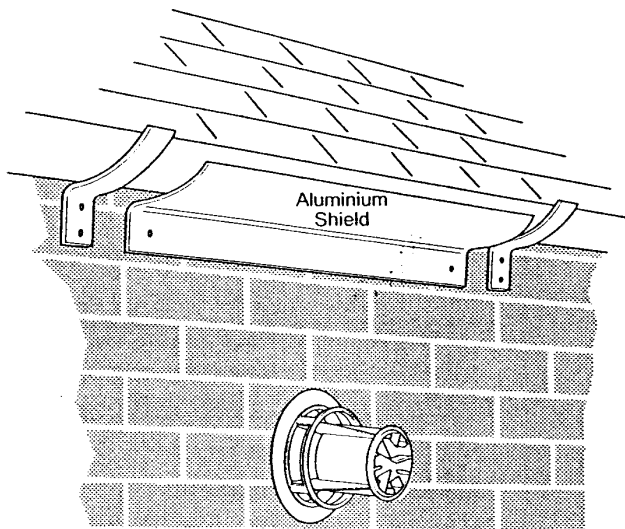

Fig. 15
3. If the terminal is fitted within 850mm of a plastic gutter, within 450mm of a painted eave or a painted gutter, an aluminium shield of at least 1 metre long should be fitted to the underside of the gutter or painted surface. An air space of 5mm should be left between shield and gutter (Fig. 15).